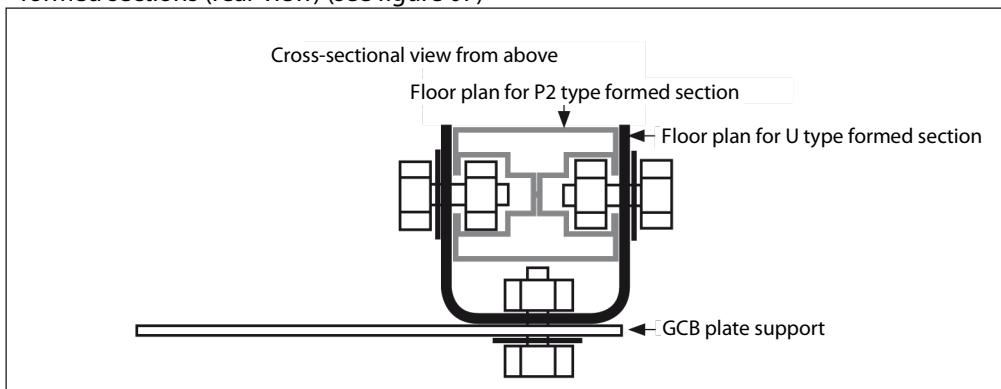

Figure 07
- After fitting the first eye nut, fit the GCB support with the two U formed sections to the two P2 type formed sections (rear view) (see figure 07)